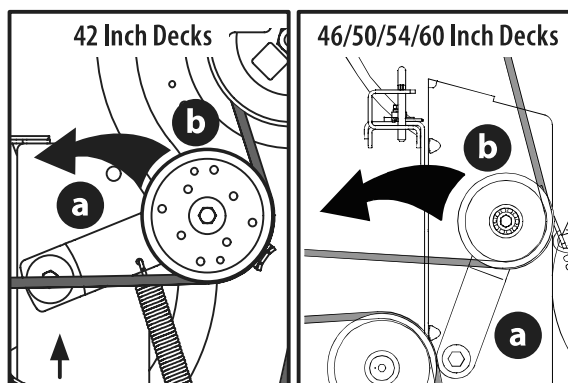

Figure 41
- Using the deck lift handle, the deck lift pedal and knob or the deck lift pedal and pin, raise the deck to the position that provides the most horizontal run of the belt between the deck idler pulleys and the PTO pulley on the bottom of the engine (Figure 41).
- Working from the middle of the tractor, pivot the idler bracket (a) and movable idler pulley (b) rearward just far enough to lift the belt up and over the spindle pulley (Figure 41).